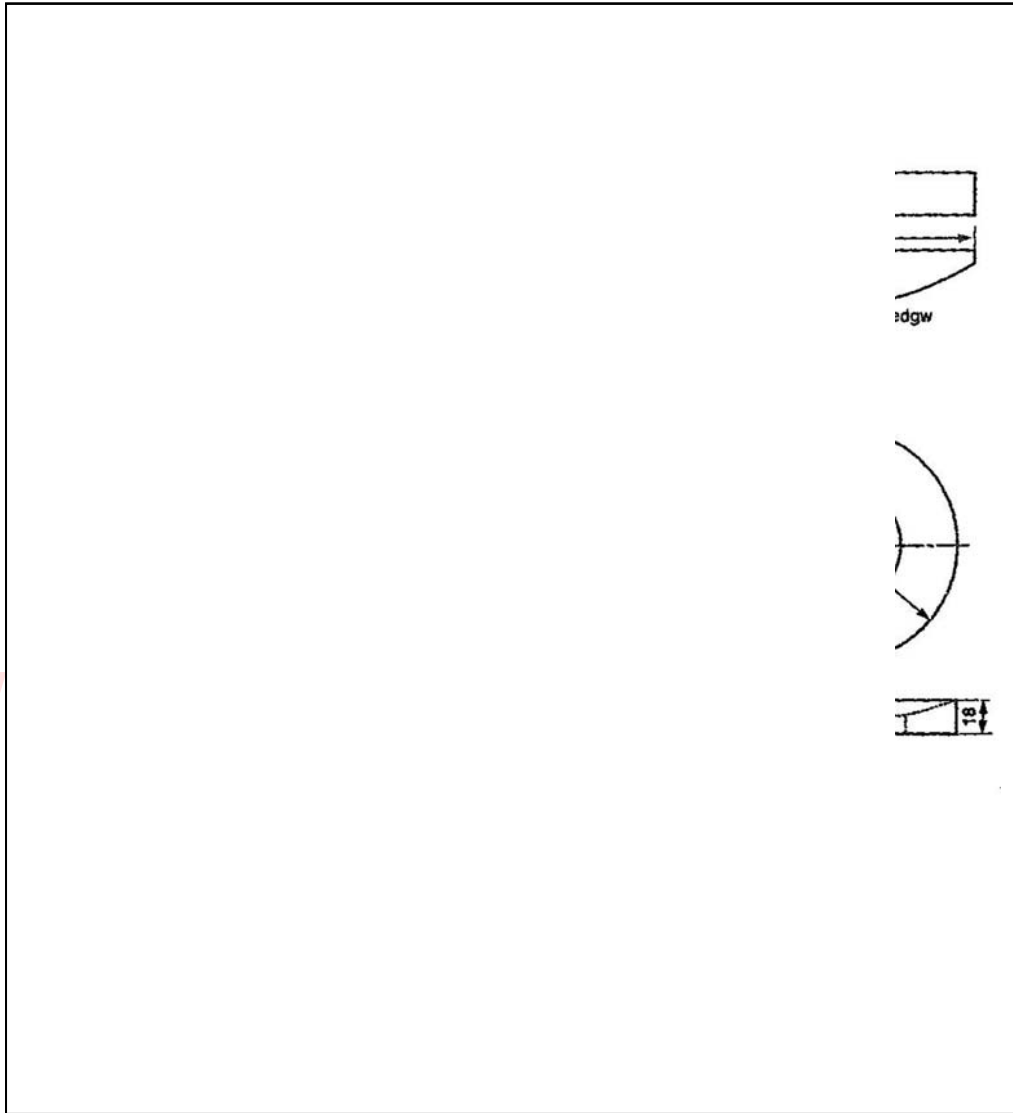

Fig. 6
- a) Fig. 6 shows the details of tool post. Draw sectional F.V. and T.V. of the assembly. Also prepare bill of material